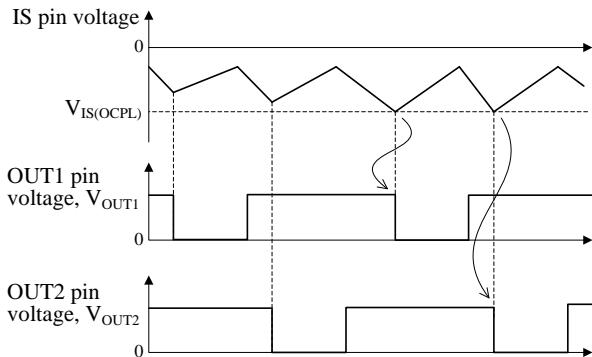

Figure 8-15 OCP operation by $V_{IS(OCPL)}$
2) When both V_{OUT1} and V_{OUT2} are High, the output which is set to High ahead is set to Low as shown in Figure 8-15.